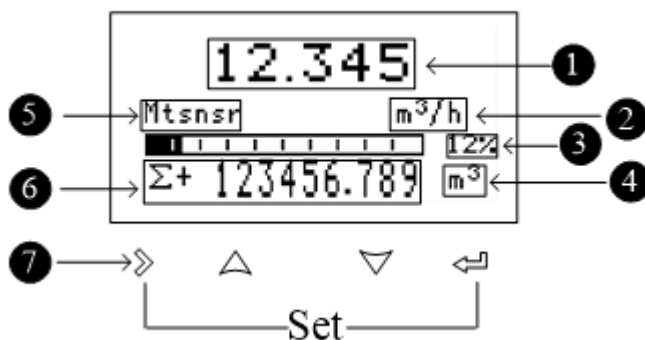

Figure 29
6.1 Flow display screen - Figure 29